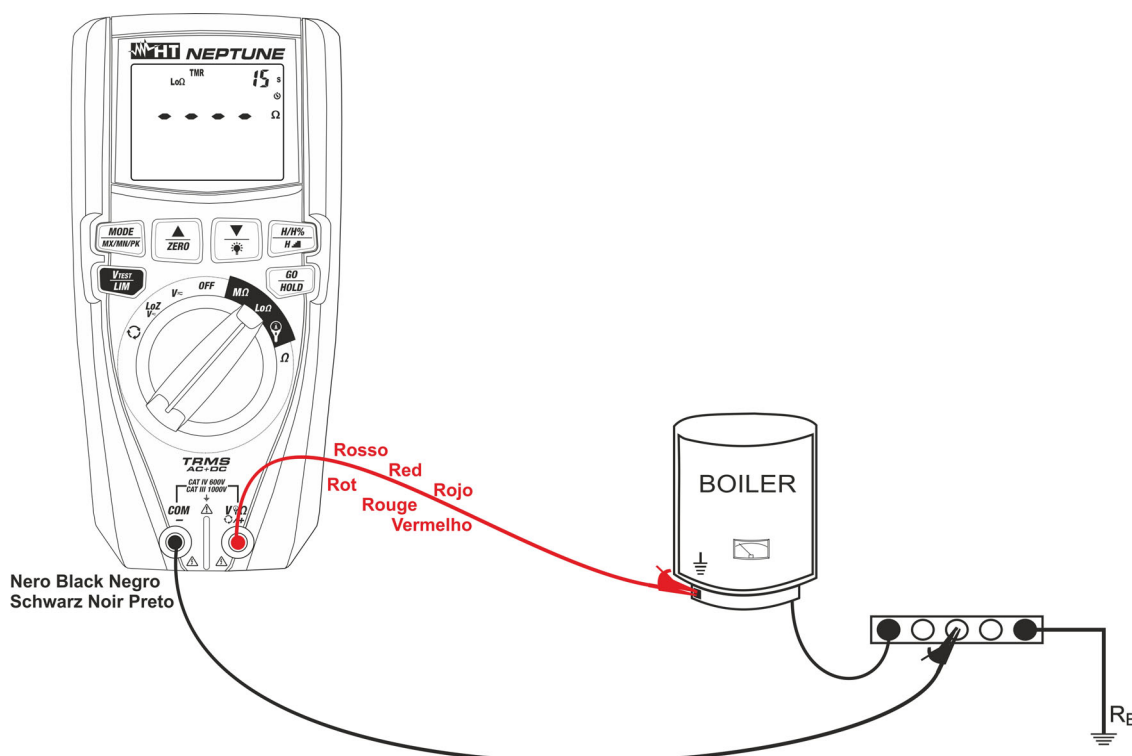

Fig. 29: Use of the instrument for continuity test in TMR mode
7. Insert the red lead into input terminal **V $\Omega$ +/+** and the black lead into input terminal **COM/-**, and connect the instrument to the system to be tested (see Fig. 29).